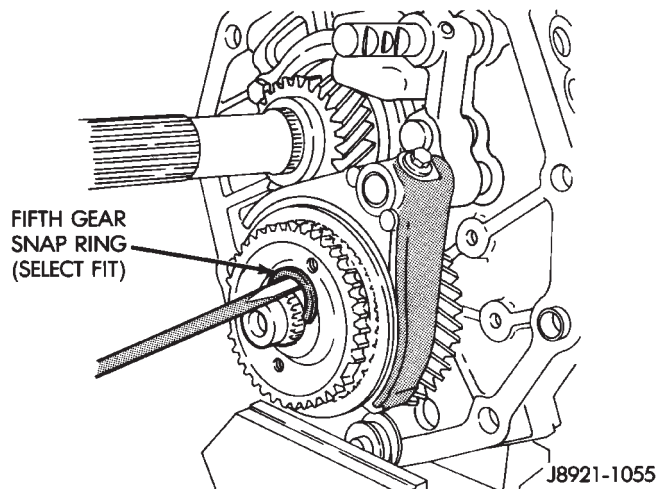

Fig. 25 Fifth Gear Snap Ring Removal
(4) Remove fifth gear snap ring (Fig. 25). Retain snap ring for assembly reference. It is a select fit component.